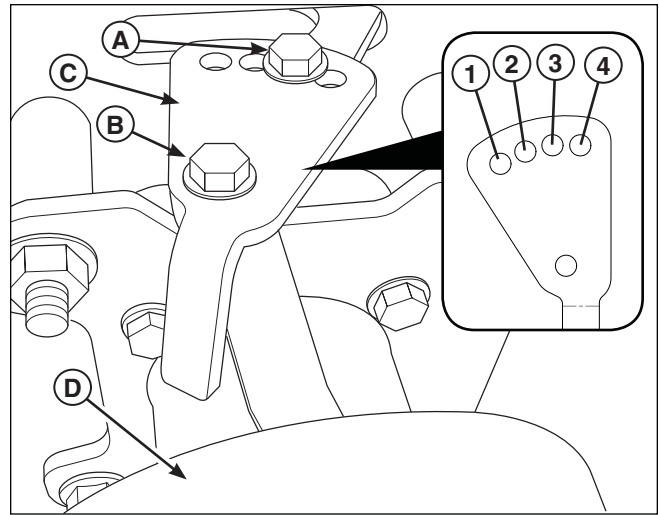

Figure 31. Adjusting the Range Selector Plate
5. Remove the range selector hardware (**A**, **Figure 31**).